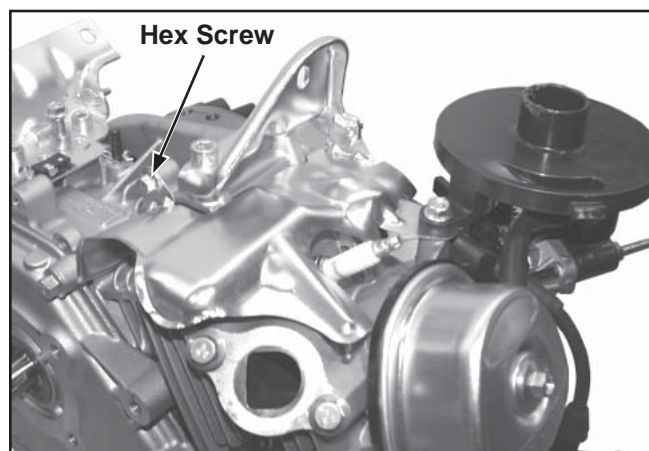

Figure 11-61. Upper Shield Hardware.
2. Install one hex flange screw in the rear of top air shield, but do not tighten at this time. See Figure 11-61.